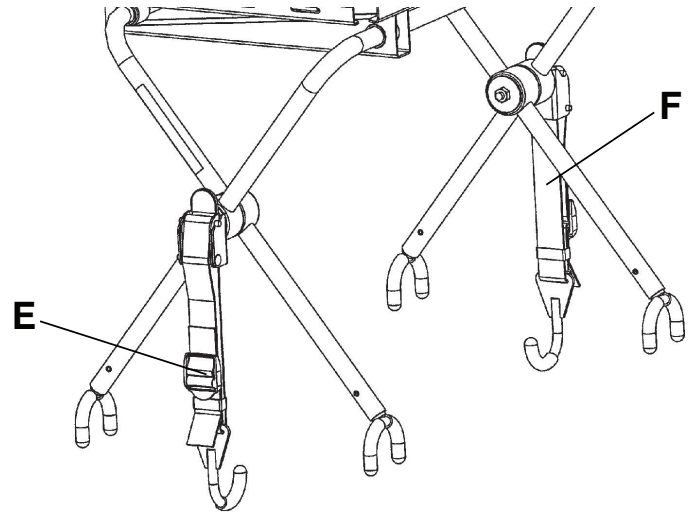

Figure 42 – Attach defibrillator platform to the cot
9. Secure the straps (E) to hold the defibrillator on the defibrillator platform (Figure 42).